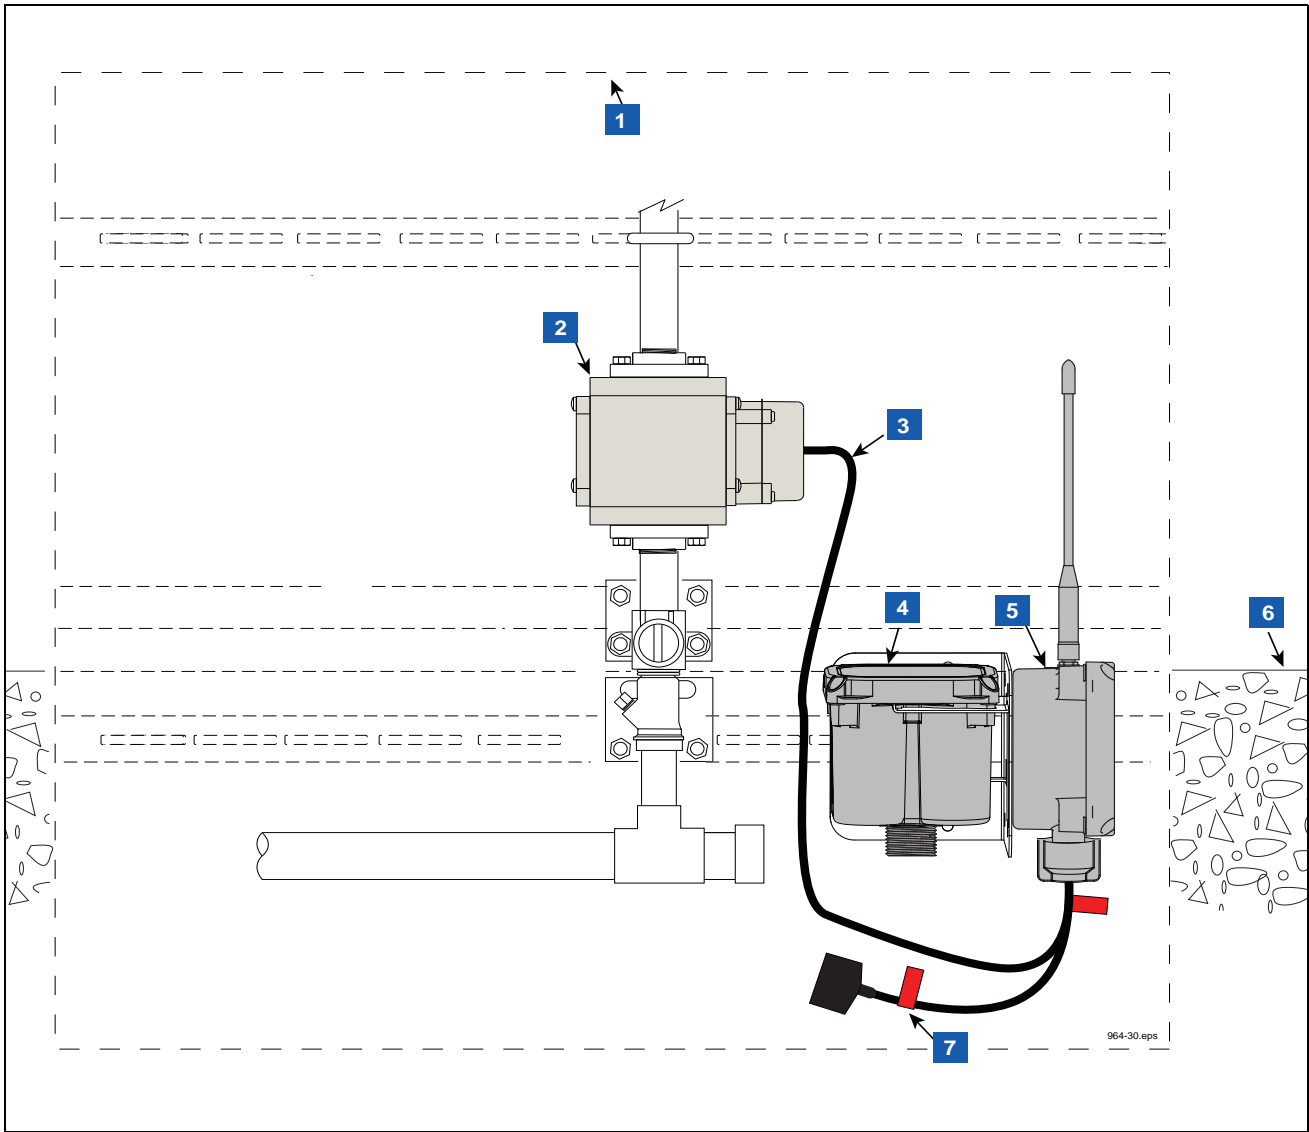

Figure 14. Example VFM Transmitter Installation In Dispenser
5. Determine a support location within the dispenser cabinet that will allow you room for the transmitter/battery support bracket. Clamp the bracket to an available support structure (see Figure 14).
LEGEND FOR NUMBERED BOXES IN Figure 14
2. Make sure the battery/DC power cable is not connected to the battery pack (item 7 in Figure 14) or dc power source at this time.